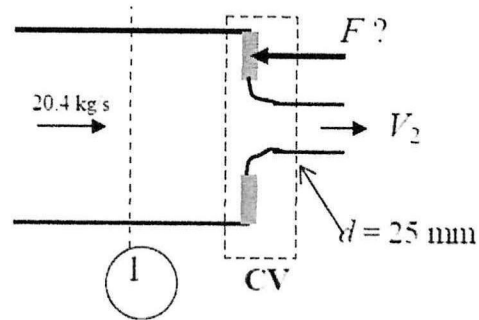

Figure Q4 (b)
- Q4** (a) Describe body forces and surface forces acting on a control volume. Give two (2) examples for each force. (6 marks)
- (b) A 12 cm diameter pipe, containing water flowing at 20.4 kg/s, is capped by an orifice plate as shown in **Figure Q4 (b)**. The exit jet is 25 mm in diameter. The pressure in the pipe at section 1 is 800 kPa. Calculate the force required to hold the orifice plate. (14 marks)